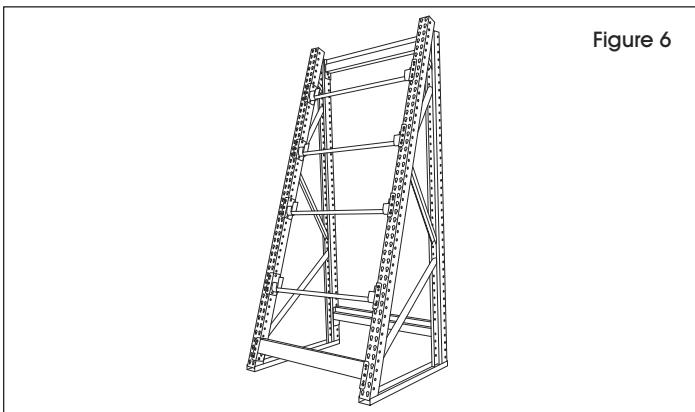

Figure 6
6. Place axles into the slots on the axle brackets. (See Figure 6)